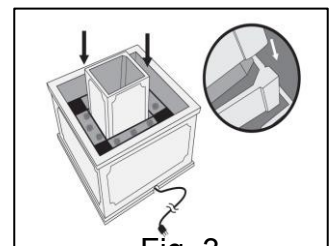

Fig. 3
3. Insert Lower tower into basin. Line up notches in base and tower so that the lower tower sits flush and level. Fig. 3.